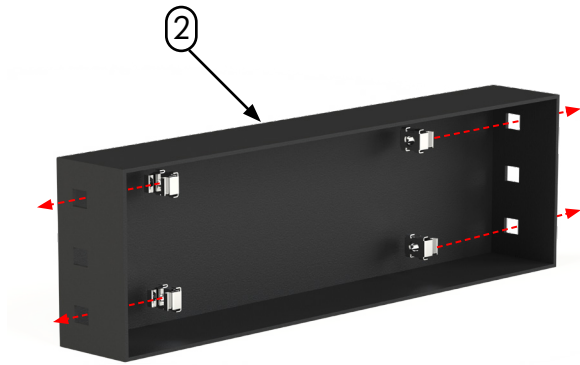

Figure 4
- Nuts must be installed from the inside (Figure 4).
Install the four flanged cage nuts from the inside of the side flange. Leave the center cutout on either side empty. Push the cage nuts until it fully clips into the square cutout (Figure 4).